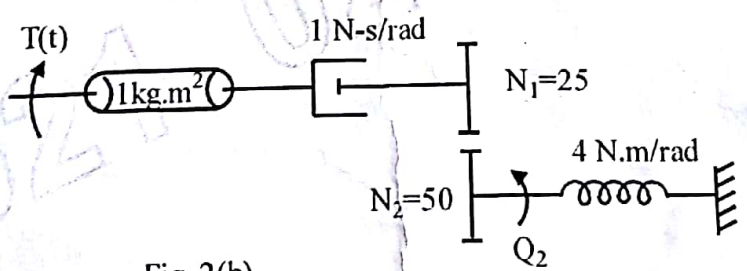

Fig. 2(b)
- Determine Transfer function of rotational mechanical system shown in fig. 2 (b) 9